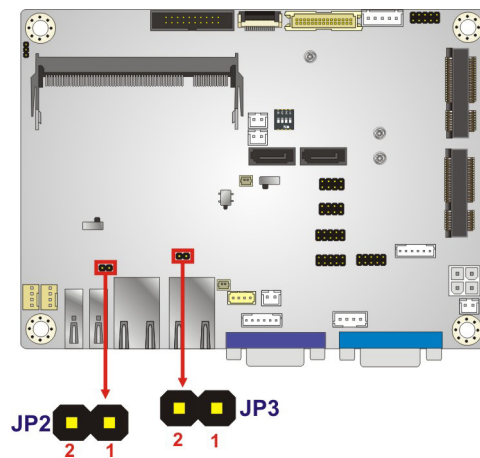

Figure 3-14: LAN LED Connector Location
- CN Location: See **Figure 3-14**